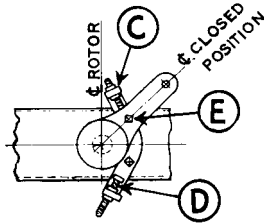

Fig. 6 3-inch Bolt Circle
(a) Rotor Crank Stop—This is the stop arrangement found on the switch base, located near rotor crank. Plan views of this stop arrangement may be seen in Figures 6 and 7, page 5. This stop limits the travel of the rotating insulator, stopping the drive crank and consequently the rotating insulator stack in both the switch open and switch closed position. Adjusting bolts (C) and (D) which limit the rotor crank travel are secured solidly to switch base, and a projection (E) fastened to rotor crank strikes these adjusting bolts in the switch open and switch closed positions.
Next, the blade height in the jaw should be examined in the closed position of the switch. With the blade beavertail perpendicular (within $\pm 3^\circ$) to the jaw contact fingers, the rotor crank stop should be set for the closed position, Figures 6 and 7. In this position the blade should be within $\frac{1}{4}$ inch of the blade fulcrum casting. Adjustment of correct height of blade in jaw is made by lengthening or shortening the linkage between the switch top crank and the switch blade. This adjustment may be made by removing the pin which connects this linkage to the switch top crank and screwing, in or out, the clevis casting, (L) of Figure 4, of this linkage.
After the closed position stop of the rotor crank, Figures 6 and 7, has been set and the switch has been adjusted for correct height of blade in jaw and for proper rotation of beavertail, the rotor crank stop must be set for the switch open position. Open the switch so that the blade assumes its proper open position, and then adjust the open position bolt of the rotor crank stop so that it engages the mating projection on the rotor crank.
Operation—Switches will now operate freely with moderate effort applied to the operating handle. All blades should operate together to the fully closed position. It may be necessary to slightly adjust one or more “open position” stop bolts, Figures 6 and 7, to obtain proper open position of blades. Operate several times to check adjustments. Be sure all blades operate to the fully closed position when the handle is locked closed. Finally, tighten the two stainless steel set screws (8) of Fig. 11, until their dog points pierce the pipe. This will permanently secure the handle to the vertical operating pipe. Note—when looking down on switch, the drive crank, (C) of Fig. 4, should turn clockwise to open and counterclockwise to close.